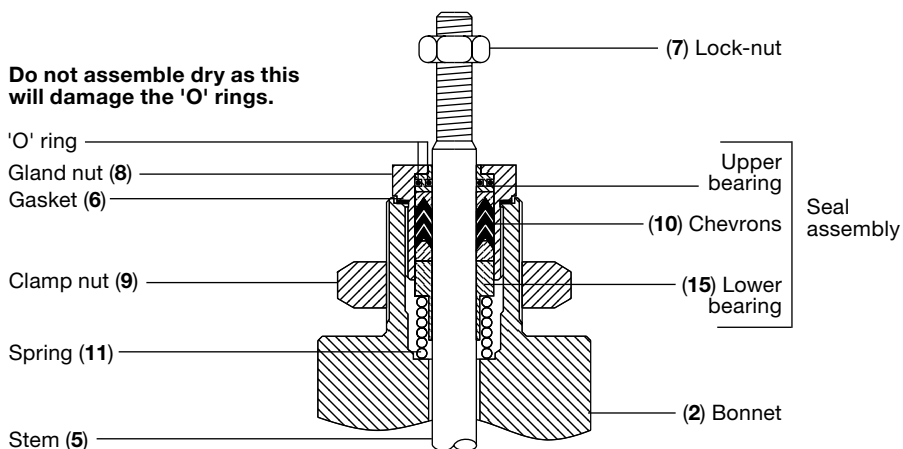

Fig. 2
- Remove the lock-nut (7).
- Unscrew the bonnet nuts securing the bonnet to the body and remove the bonnet (2) complete with the plug/stem assembly.
- Unscrew the gland nut (8), withdraw the plug/stem assembly, remove and discard the gland seal set (10 + 11 + 15) and gland nut gasket (6).
- Examine the parts for signs of damage or deterioration and renew as necessary. Note that score marks or scaly deposits on the valve stem (5) will lead to early failure of the seals.
- Using a new bonnet gasket refit the bonnet (2) onto the valve body, leaving the stem protruding. Replace the bonnet nuts and tighten to the recommended torque (see Table 1, page 13), ensuring that the valve plug is centrally located in the seat whilst tightening.
- To replace the new gland seal assembly (10, 11, 15), firstly fit the gland spring (11) over the valve stem (5). New chevron gland seals should be firmly inserted into the gland nut (8), as shown in Figure 2. Being careful to avoid damage to the sealing edges, replace the gland nut gasket (6). Refit the gland nut (8) over the valve stem (5), screwing down to ensure the gasket is bedded down onto the bonnet (2).
- Ensure that the stem (5) moves freely.
- Refit the valve lock-nut (7).
- Refit the actuator, clamping nut (9) and connect the actuator to the valve stem.